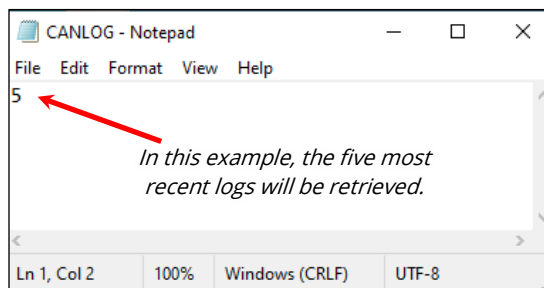

Figure 4: Open plain text file in PC
- e. **TYPE** number of data log files desired to be transferred to flash drive (Figure 4).